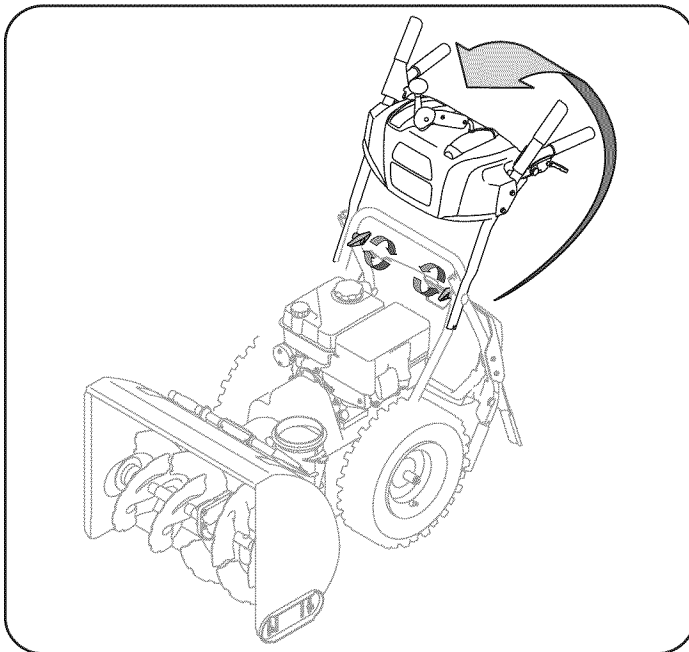

Figure 1
- b. Pull up and back on upper handle as shown in Figure 1. As you are raising the handle upward, make sure that both ends of the center cable are positioned properly in the brackets. Align upper handle with the lower handle.